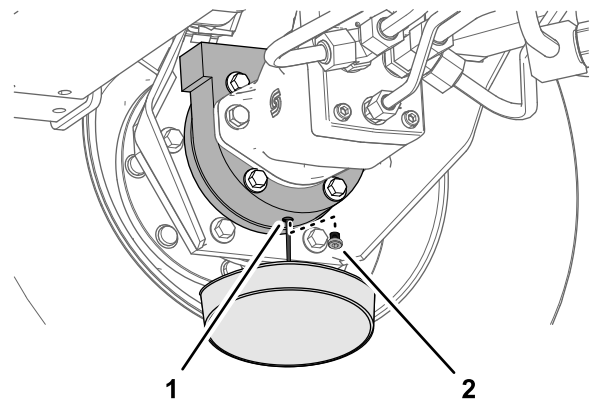

Figure 101
6. Place a drain pan under the brake housing, remove the drain plug, and allow the oil to fully drain (Figure 101).